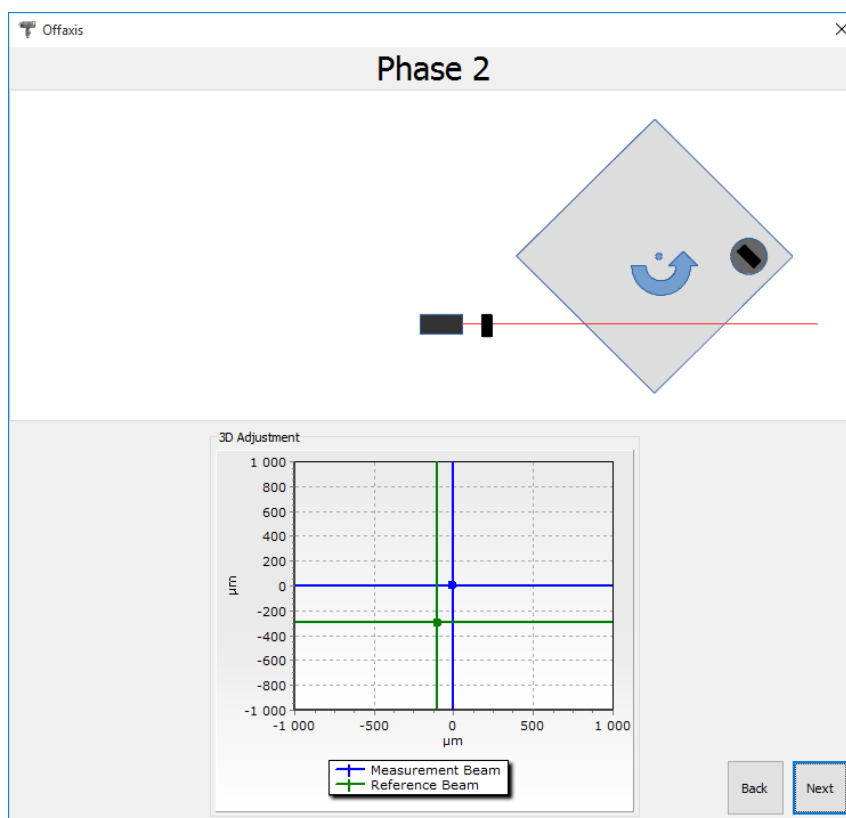

FIG.14.18. PHASE 2 OF THE OFF-AXIS PATH GENERATION
- 2) **Phase 2** - machine is to be rotated in the measured axis by +45 degrees (figure 14.18)